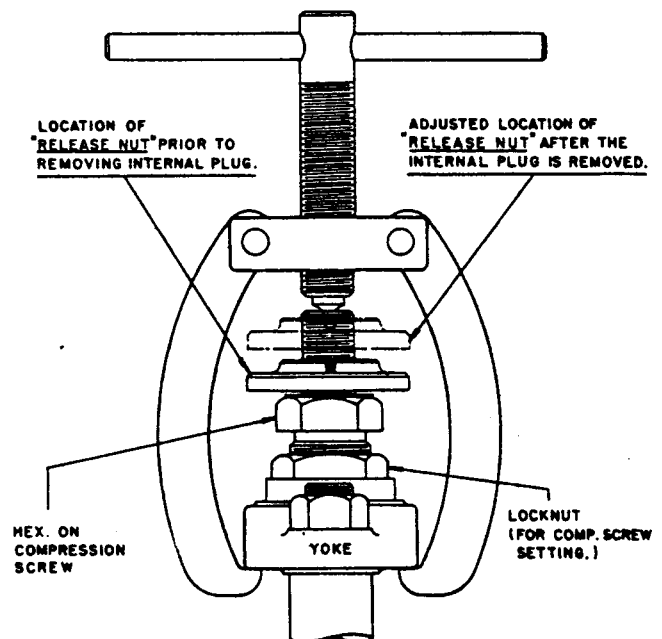

Figure 15 — Application of Test Gag
1. Refer to Figure 14. Remove CAP (29) with TOP LEVER (30) and DROP LEVER (32) attached. The RELEASE NUT (28) is fixed to SPINDLE (11) by means of a cotter pin. Note that the RELEASE NUT does not quite engage top of COMPRESSION SCREW (26). See Figure 15 for details of RELEASE NUT position.
2. Center the test gag screw in the exposed end of the SPINDLE (11) and hook the legs of gag under the sides of the YOKE as shown in Fig. 15.
2. Reassemble YOKE AND SPRING ASSEMBLY into BASE being careful not to damage the DISC. Locate the GUIDE RETAINING PLATE (14) so that the orifice plug is accessible. The lugs on the TOP SPRING WASHER (24) should be on the right side of the valve when facing the outlet.
3. Replace the two YOKE ROD NUTS (34) and the four GUIDE RETAINING STUD NUTS (16). Tighten the YOKE ROD NUTS (34) and just snug up the four GUIDE RETAINING STUD NUTS (16).
4. Remove cotter pin from RELEASE NUT (28). Turn the RELEASE NUT counter clockwise and return RELEASE NUT to position at top of SPINDLE so that cotter pin can be reinserted in a hole drilled in the SPINDLE at that location. See Fig. 15. The valve setting is now approximately equal to the setting stamped on valve nameplate.
5. Visually center GUIDE RETAINING PLATE (14) around SPINDLE (11) and tighten the four GUIDE RETAINING STUD NUTS (16).
6. Replace CAP (29) and locate DROP LEVER (32) vertically on center line of valve.